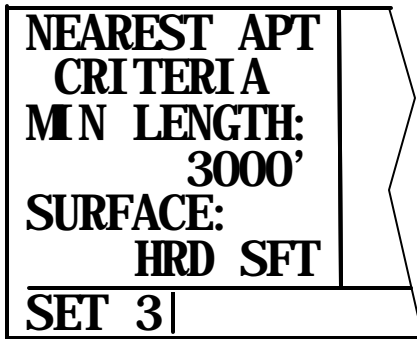

Figure 3D-83. SET 3 Page
d. The Setup 3 Page. The nine airports in the nearest list are the nine airports that meet the criteria selected on the SET 3 page. Refer to Figure 3D-83.